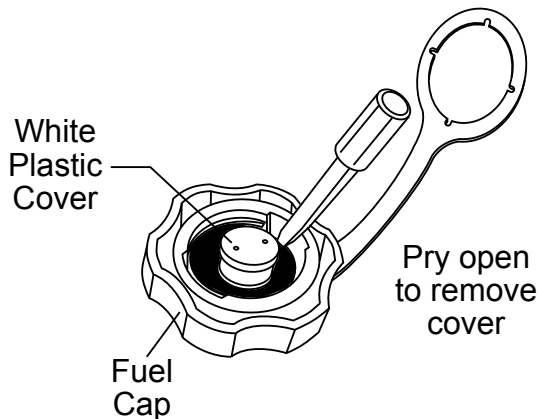

Figure 2. Remove Plastic Cover
2. Use a flat blade screwdriver to remove the plastic cover from the inside of the cap (Figure 2).